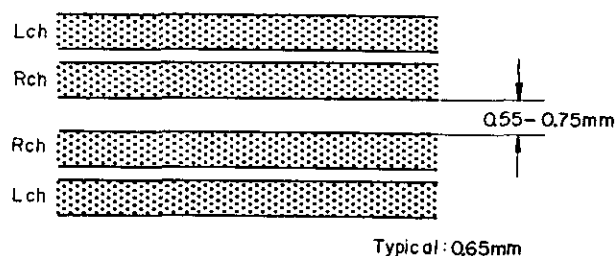

Fig. 4.21
- (o) Immerse the recorded tape in a magnetized developing solution. In turn, check to insure that the recording head tracks across the center are separated with a distance of 0.55 to 0.75 mm (typically 0.65 mm) as illustrated in Fig. 4.21.